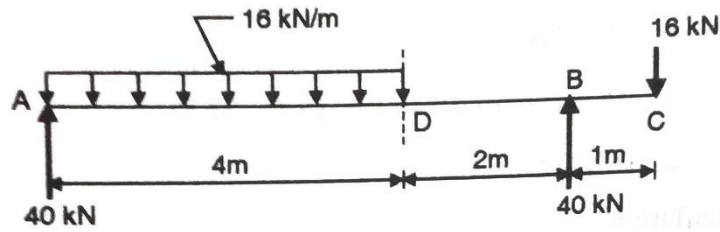

Figure 05
- C) A beam ABCD has an internal hinge at B and is loaded shown in figure 05. Plot shear force and bending moment diagrams and locate point of contra flexure. (CO4) 6